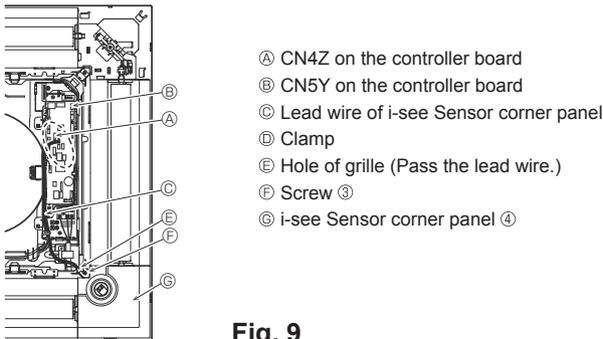

Fig. 9
4.5. Installation of i-see Sensor corner panel (Fig. 9)
- Route the lead wire connector (white, 4 poles and white, 5 poles) of the i-see Sensor corner panel ④ from the side of the electrical box on the main unit and connect to the connector CN4Z and CN5Y on the controller board.